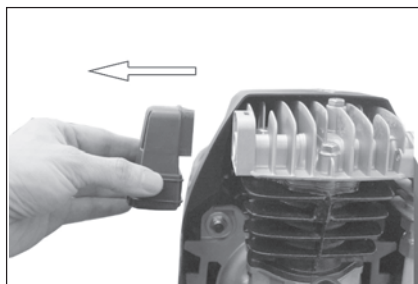

Figure 10
- 1 Pull the filter cover away from the compressor as shown. See figure 10.